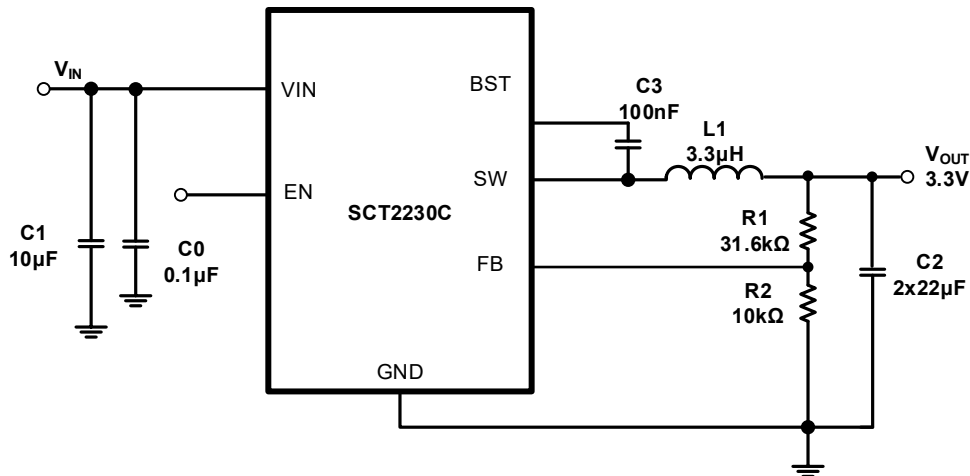

Figure 8. 12V Input, 3.3V/3A Output
The SCT2230C features external programmable output voltage by using a resistor divider network R1 and R2 as shown in the typical application circuit Figure 8. Use equation (8) to calculate the resistor divider values.